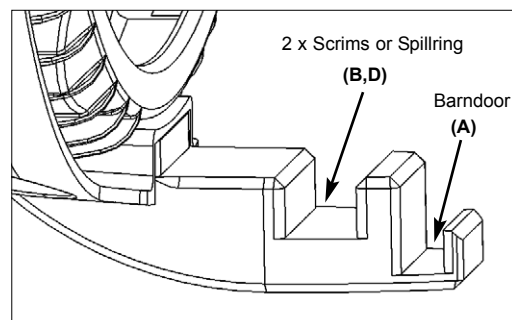

Abb. 5 / figure 5
- Hinterer Einschub: Drop-In Linse (C)
- Mittlerer Einschub: 4x Scrim (B)
- Vorderer Einschub: Flügeltor (A)**M 18 (Abb. 5):**
- Vorderer Einschub: Flügeltor (A)
- back insertion: Drop-in lens (C)
- middle insertion: 4x scrim (B)
- front insertion: barndoor (A)**M 18 (figure 5):**
- front insertion: barndoor (A)